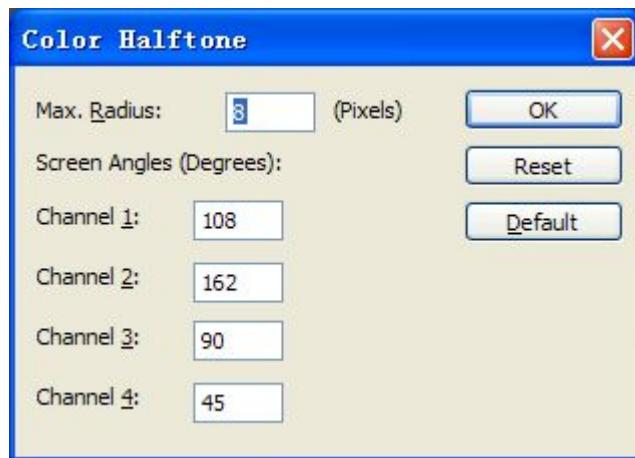

Figure 5-6
- 1、Select Filter/ Pixelate / Color Halftone , a window will pop up, such as figure 5-6.